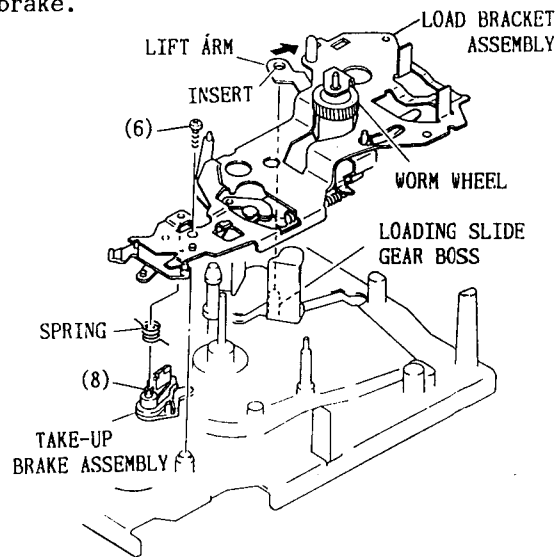

Fig. 7-10 Load Bracket Assembly and Take-up Brake
10. Load Bracket Assembly and Take-up Brake Load Bracket Assembly (Fig. 7-10)
Take-up Brake (Fig. 7-10)